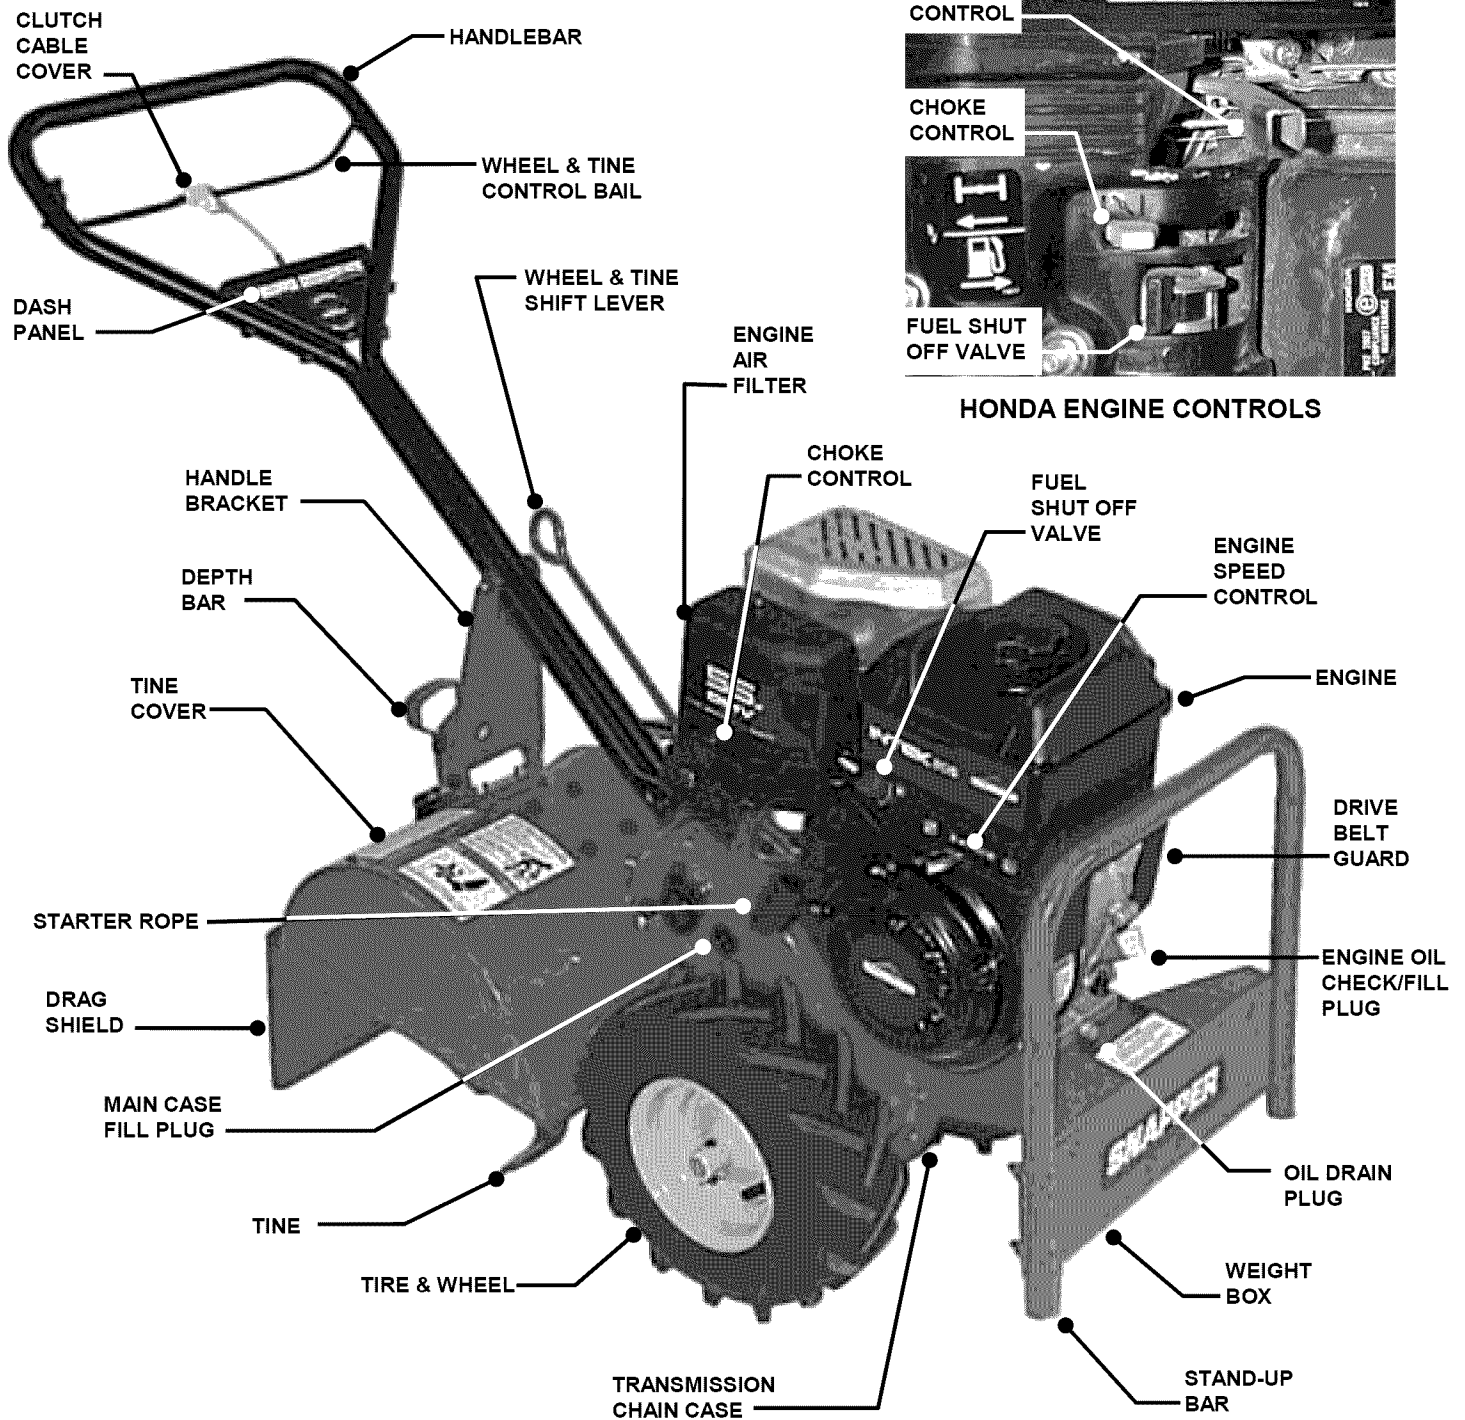

FIGURE 1
1.1 INTRODUCTION: This manual covers the recommended operating procedure and routine service requirements on SNAPPER Intermediate Rear Tine Tiller. It is recommended that all operators of this Tiller become thoroughly familiar with the controls and proper operation of the unit before operating. Specific details involving the engine are found in the separate engine owner's manual. Study these manuals before operating and keep both handy for future reference. Refer to Figure 1 above for location of controls and other essential components.